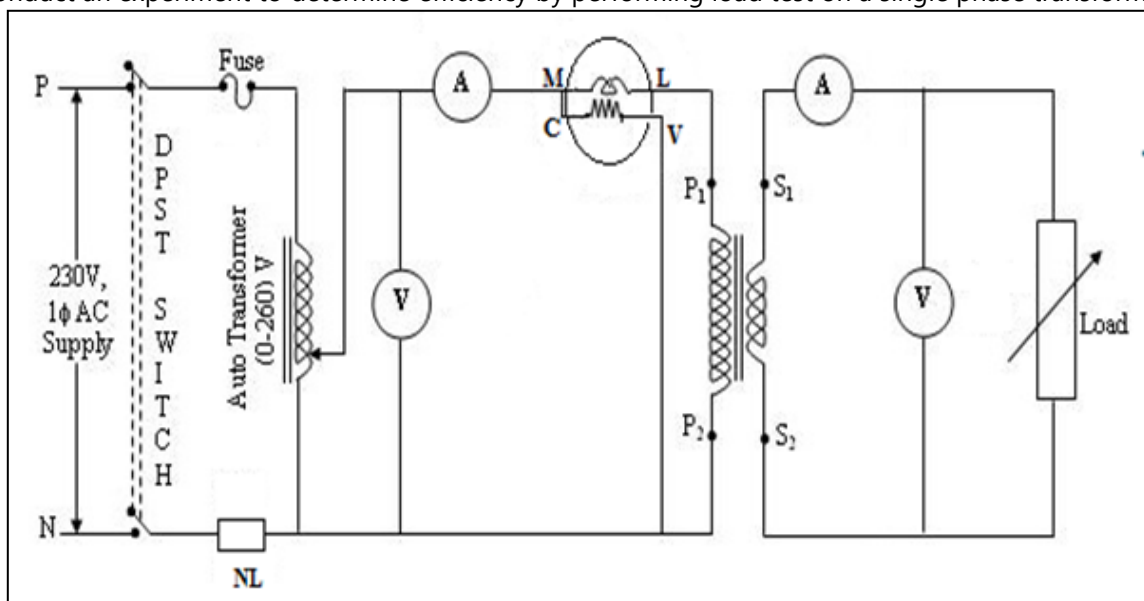

Figure 3 - LOAD TEST ON SINGLE PHASE TRANSFORMERS
1. Calculate the different currents and voltages by using voltmeters and ammeters from Figure 3